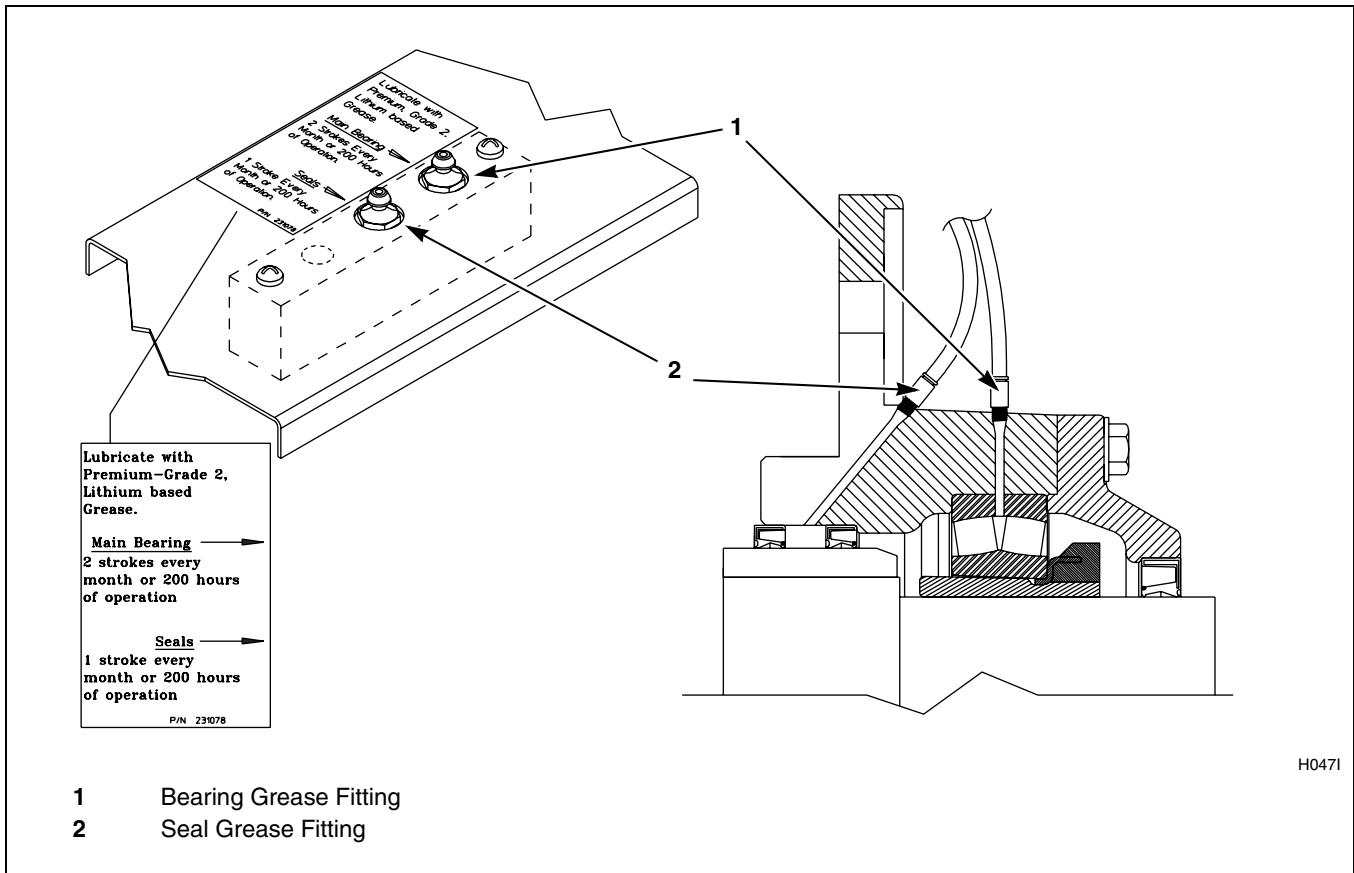

Figure 17
2. **For 80 pound capacity models only**, lubricate bearings and seals each month OR after every 200 hours of operation. Refer to *Figure 17*.